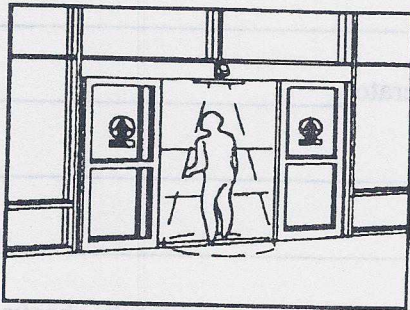
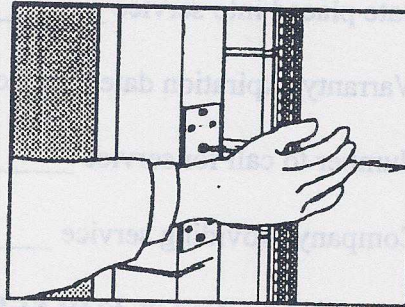

Figure 2
Figure 3
- E. Activate the door. Stand motionless in the pathway of the door for 10 seconds (See Figure 2). The door should remain open. If it is equipped with holding beams, cover each holding beam with a piece of tape. Leave the detection zone. The door should close after the time delay expires (See Figure 3).